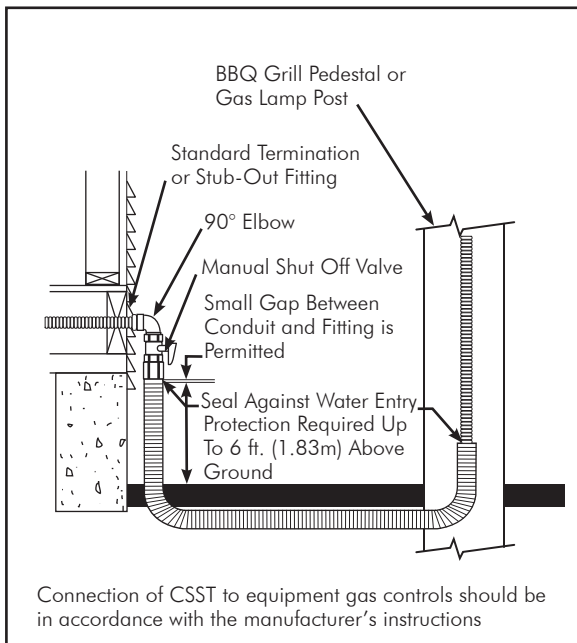

FIG. 4-26 Ground Level Buried Connection
- Yard mounted gas powered lights shall be connected to the DIAMONDBACK™ system as shown in **FIG. 4-26**. All DIAMONDBACK™ installed below grade shall be protected by nonmetallic conduit. Exposed ends shall be sealed against water entry.
**FIG. 4-26** shows an acceptable installation of CSST underground or in concrete.